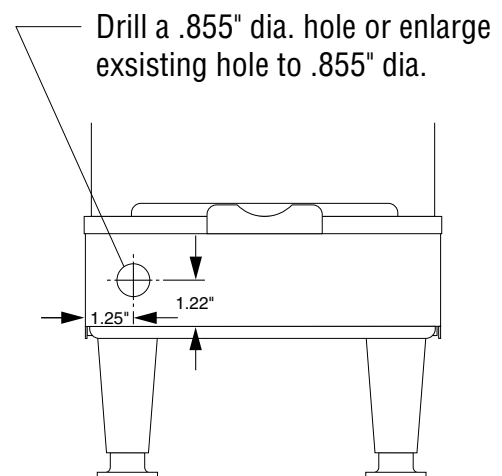

FIG 3
14. If your brewer does not have a lower faucet mounting hole or if the mounting hole is only .50" Dia., refer to the FIG 3 below to drill a **.855" Dia.** hole or enlarge existing hole.
15. Install faucet shank assembly (7), chrome jam nut (6), gasket (5) and fitting (4) into brewer base.
16. Install faucet assembly (8) onto faucet shank.
17. Place the other new clamp (3) over end of the new silicone tube. Install tube onto faucet fitting; tighten the clamp.
20. Install new warning decal (10) on brewer near the faucet. The brewer is now ready to return to service.